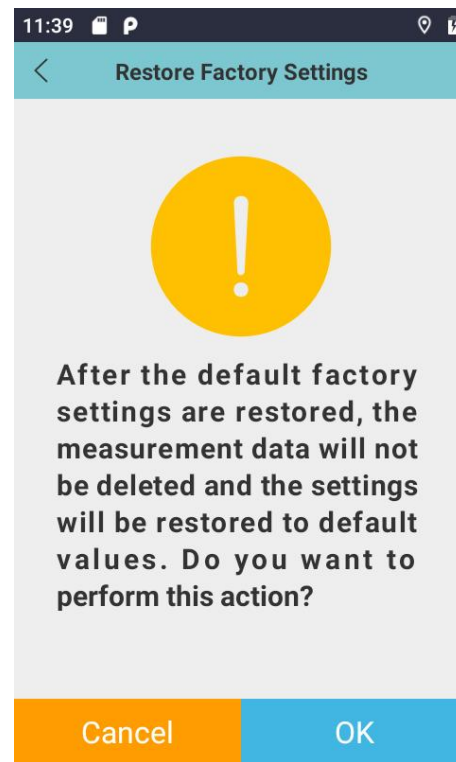

Figure 6.115
- 2) Restore Factory Settings: Tap “Restore Factory Settings” to enter the reset screen (see Figure 6.115). Tap “Confirm” to proceed. The instrument will restore factory defaults, excluding the following: Microphone sensitivity level, Stored measurement data, Calibration records, Internal clock settings, Group names.
When Activation Mode is set to Over-limit. The interface displays Day Limit, Night Limit, Delay, and Recording Duration, as shown in the right panel of Fig. 6.115. Once the set over-limit duration is reached, recording will automatically start. If LAFp continuously over the limit for longer than the set "delay time," recording starts immediately after the delay ends. The recording duration equals the set "Recording Duration". If the measurement ends before reaching the full recording duration, recording continues until the set duration is completed. If the recording duration exceeds 1 hour, the system automatically splits the recording into 1-hour segments.
Example from the right panel in Fig. 6.115, if LAFp exceeds the limit for 5 seconds, exceedance recording starts automatically. When the recording reaches 10 seconds, it automatically stops and is saved in the Total Value Integration folder. File Size Considerations: